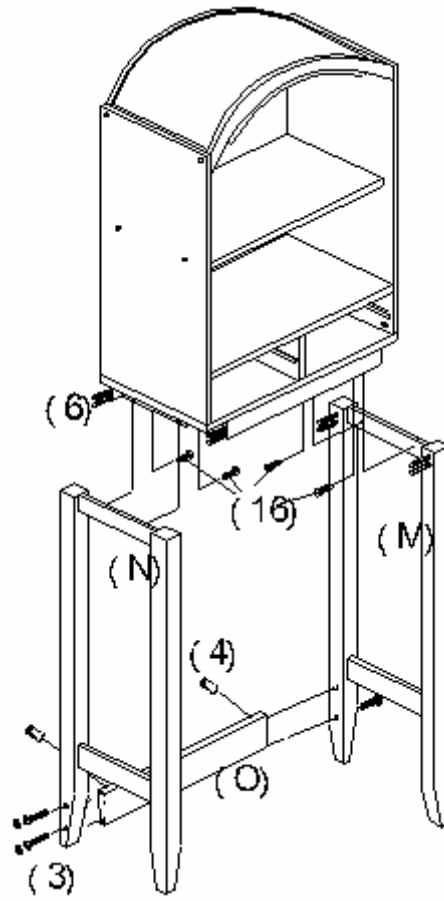

**FIGURE 2**
4. INSERT MEDIUM FLAT HEAD WOOD SCREWS ( $\varnothing 3 \times 15 \text{mm}$ ) (8) THROUGH PREDRILLED HOLES ON OUTSIDE OF DRAWER RIGHT PANEL (J) AND TIGHTEN INTO PREDRILLED HOLES ON ENDS OF DRAWER FRONT PANEL (F) AND DRAWER BACK PANEL (H). SLIDE DRAWER BOTTOM PANEL (I) INTO GROOVES ON DRAWER FRONT PANEL (F) AND DRAWER BACK PANEL (H) AND ALIGN WITH GROOVE ON DRAWER RIGHT PANEL (J). ASSEMBLE DRAWER LEFT PANEL (G) IN SAME MANNER. (AS SHOWN IN FIGURE 2)